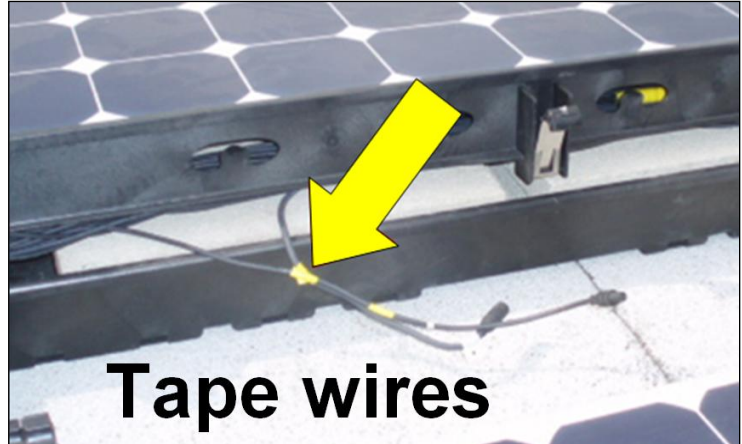

Fig. 56
7. At the string end, tape the homerun wire to its module lead mate, placing the tape approximately 10" (25.4 cm) from the end of the connectors. This will enable you to connect them easily later, without violating the maximum allowable bend radius of the wires (Fig. 56).